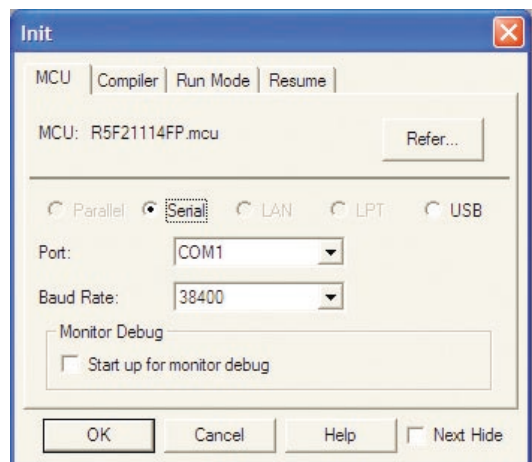

Figure 4. KD30 Init Window
- b) Click on the debugger icon  to launch the KD30 debugger from HEW. The “Init” dialog box should open (Figure 4).